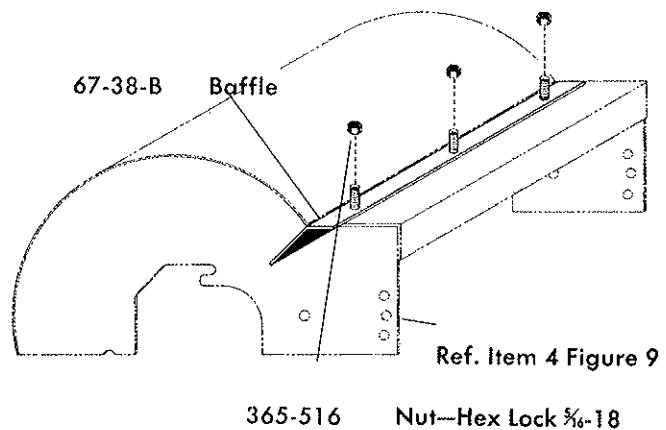

Fig. 7
9. On some types of turf, especially St. Augustine and Zoysia, which is exceptionally thick, it may be advantageous to add a baffle with the knife blade reel when scalping, to aid the discharge of cut material. See Fig. 7 for baffle, Part Number 67-38-B, and method of assembly. This is optional equipment and is to be used ONLY WITH KNIFE BLADE REEL.